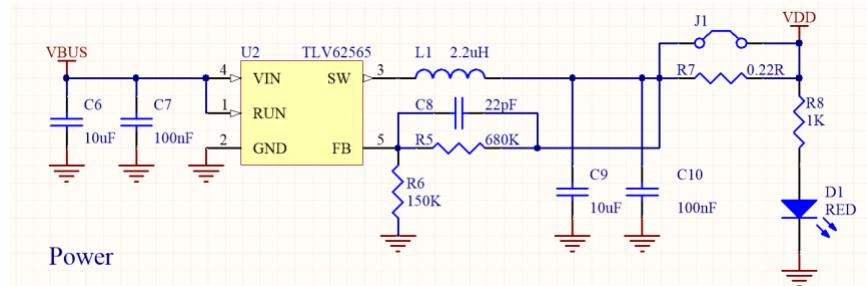
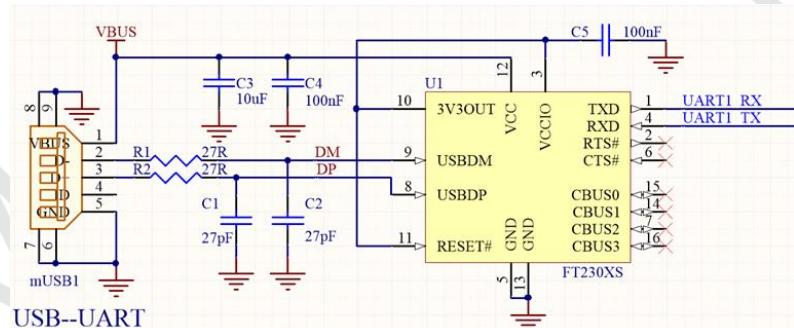

Figure 10 Power Reference Circuit
Figure 11 USB to UART Reference Circuit
- Please according to the SMT reflow soldering curve, peak temperature 245 °C, reflow soldering temperature curve as shown in figure 10, section 5.5;
The EMW3072 power supply reference circuit is shown in Figure 10, Figure 10 USB serial port reference circuit and Figure 11 external interface reference design for user reference.